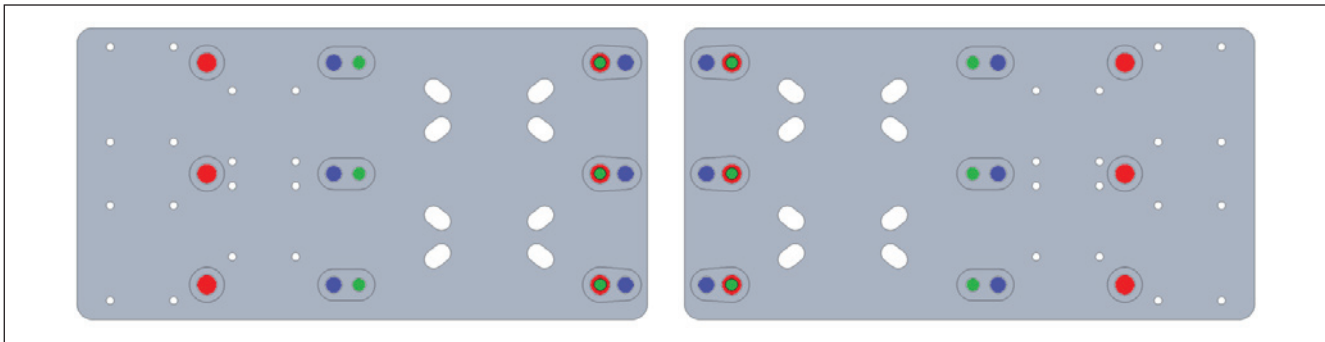

Fig. 9: **Typ 1 Befestigung an CKK**
6. Finally, the plate is attached to the multi-axis system together with the bracket and dosing system. Depending on the size of the z-axis of the existing multi-axis system, other holes are used for this. The assignment of the holes to the axes **CKK-090**, **CKK-110** und **CKK-145** ► Fig 9.